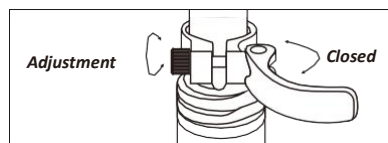

Fig 5 Opening and adjusting a quick release
- 5) Open the seat post quick release lever(Fig. 5). Insert the seat post into the seat tube to a sufficient depth so that the minimum insertion line is no longer showing.